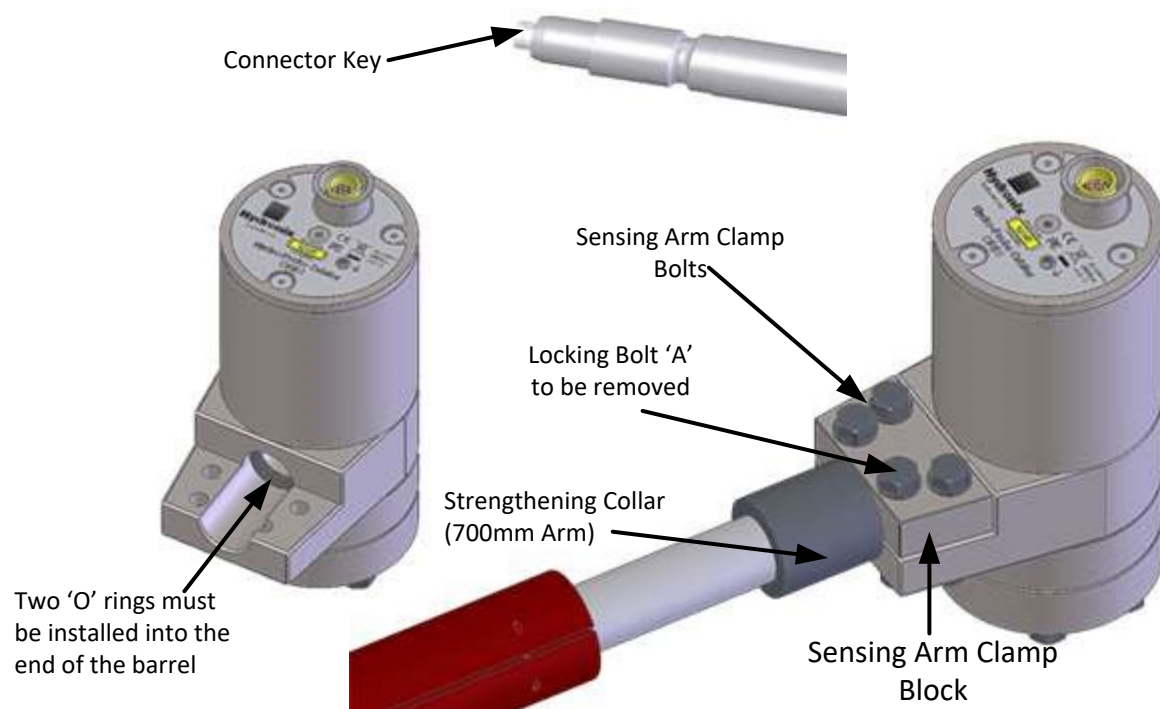

Figure 2: Installation of Sensing Arm into Head Unit
- Loosen the 4 Sensing Arm Clamp Bolts on the Head Unit and remove the Locking Bolt (A).
- Fit the two 'O' rings. These need to be located inside the Sensing Arm Clamp Block up against the step (Figure 2).